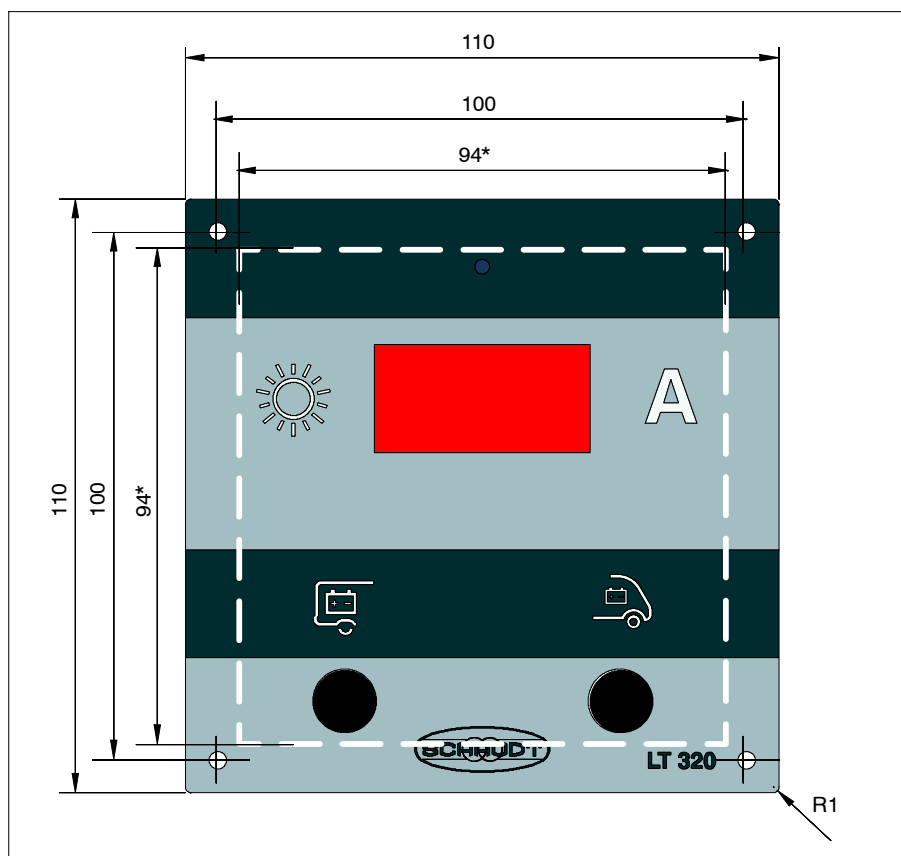

Fig. 1 Dimensional diagram for LT 320 (dimensions in mm)
- Establish an installation opening as in Fig. 1.
- Mark out the hole pattern (see Fig. 1).